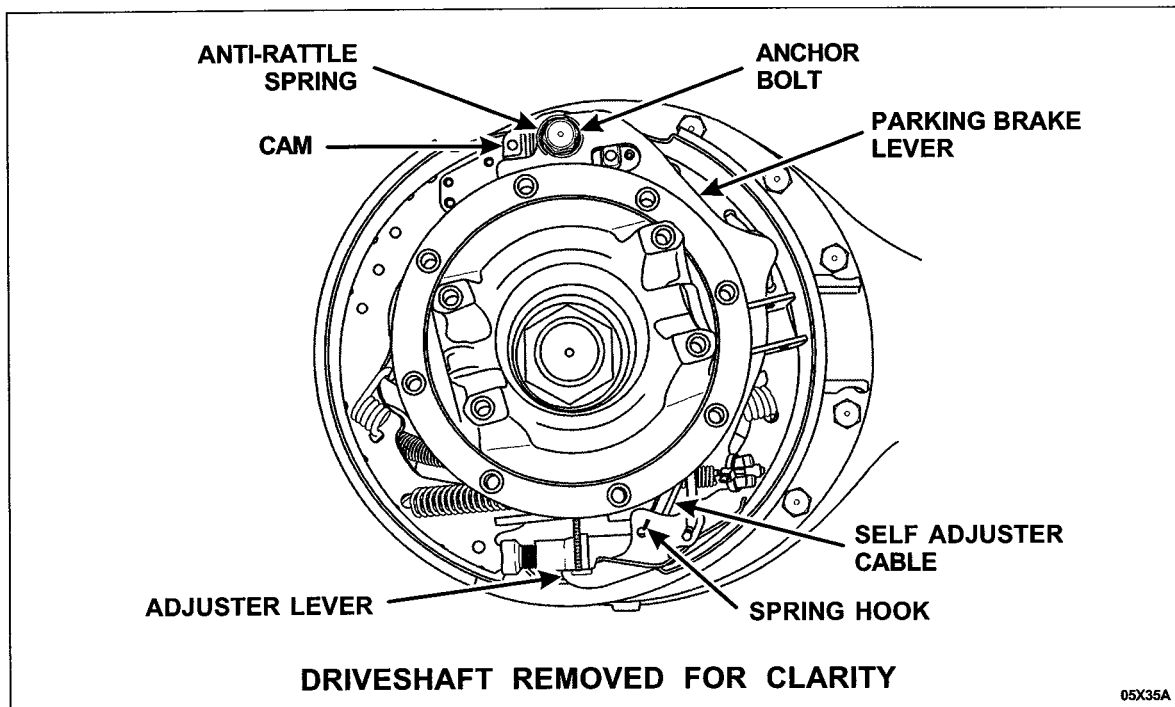

FIGURE 1
4. Disengage the self adjuster cable spring hook from the adjuster lever by lifting the lever up and away from the starwheel and maneuvering the spring out of the lever. See Figure 1.